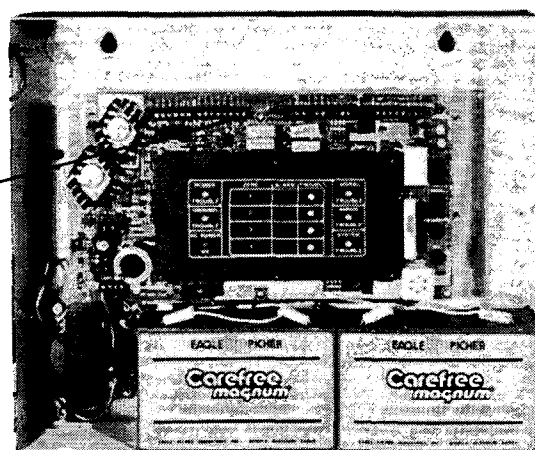

FIGURE 9
4. If any of the designated zone terminals on the panel do not have initiating devices connected to them, connect a 3.3K EOLR across those terminals (Fig. 9). (If using the transient suppressor, the zone disconnect, or combination board, see page 28.)